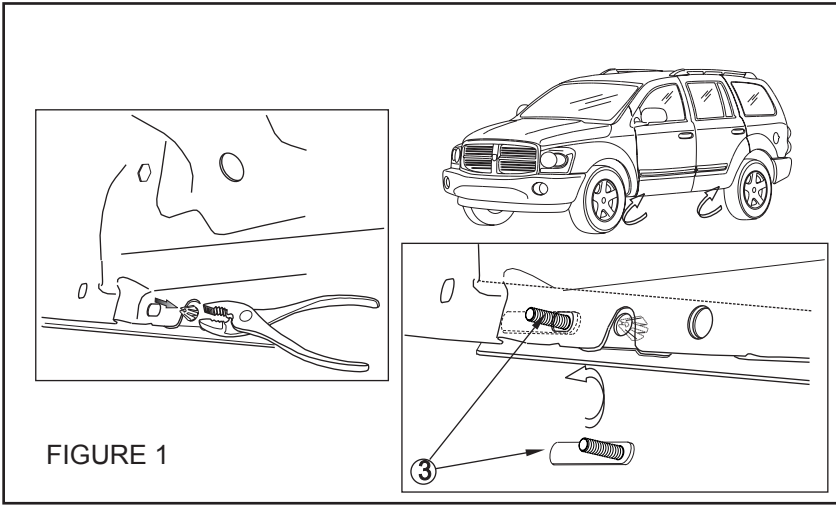

FIGURE 1
- STEP 3. Separate trim from rocker panel and insert bolt plates as shown. Leave loose. **SEE FIGURES 1 AND 2.**